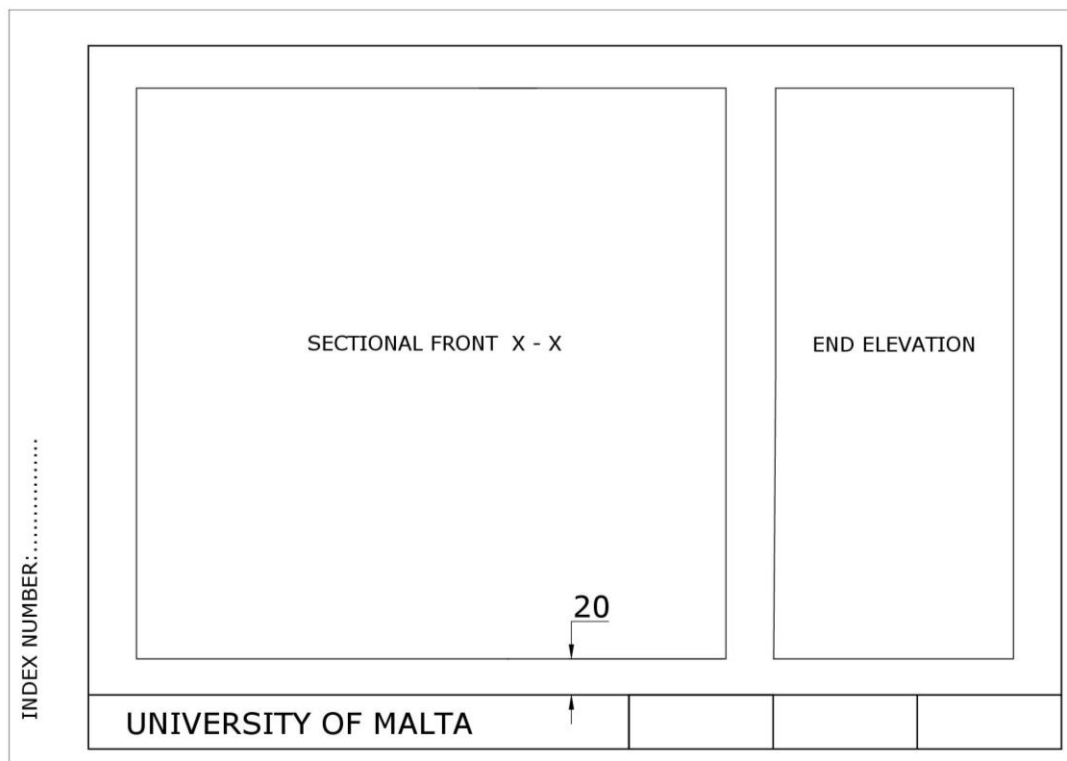

Figure 1a
- Start your drawing 20 mm above the title block (see Figure 1a).